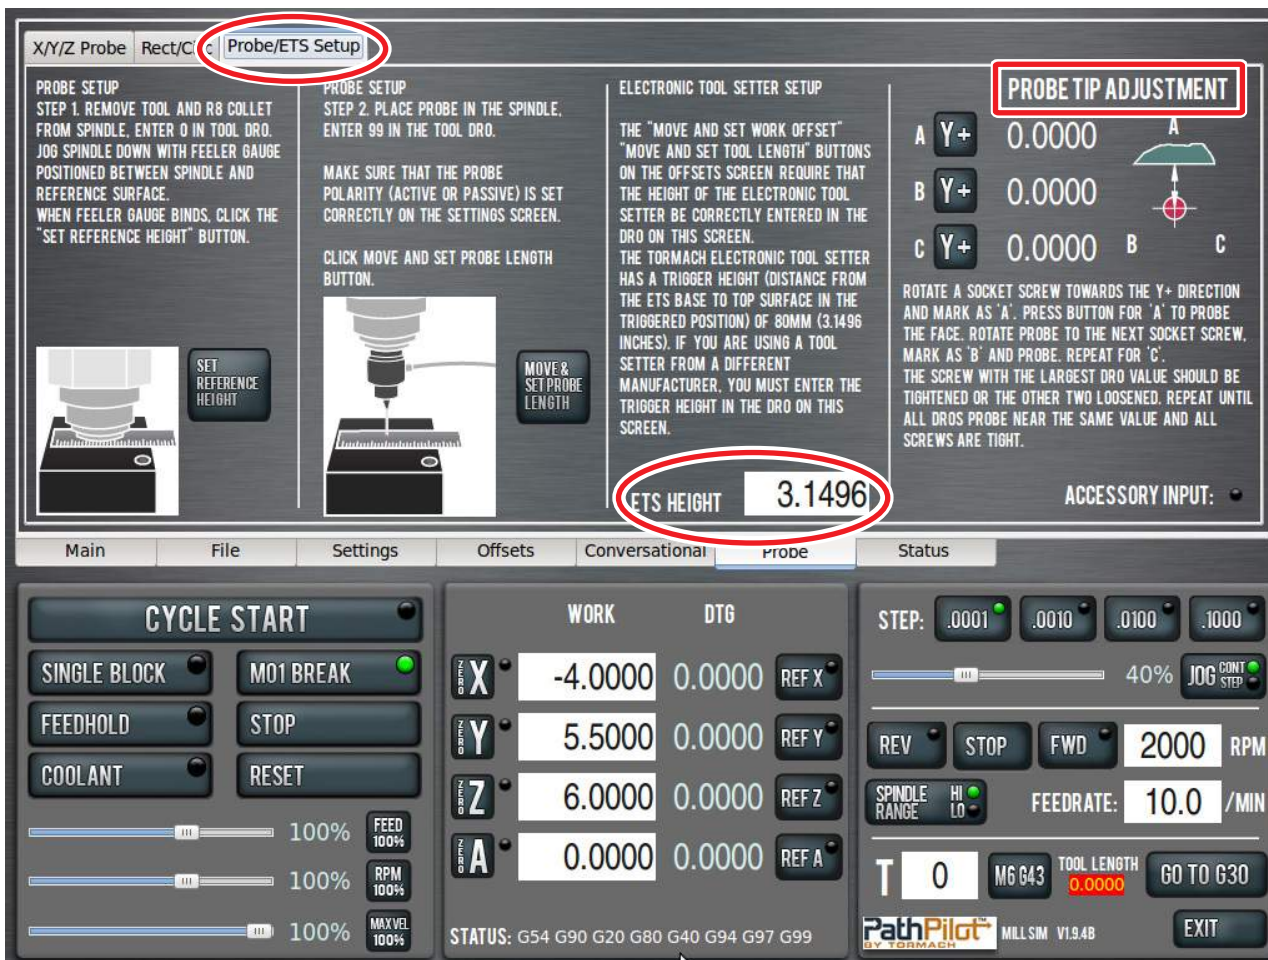

Figure 8.23
Calibrate the probe as follows (see **Figure 8.23**):
2. Refer to the *Probe Tip Adjustment* screen instructions as shown in **Figure 8.23**.
The trigger height of the ETS is 80 mm (3.1496"). This is the default value in the *ETS Height* DRO on the *Probe/ETS Setup* tab in PathPilot® (see **Figure 8.23**). If using a non-Tormach tool setter, consult the manufacturer for trigger height and enter this value in the *ETS Height* DRO. If in G20 (imperial units) enter the height in inches; if in G21 (metric units) enter the height in millimeters.